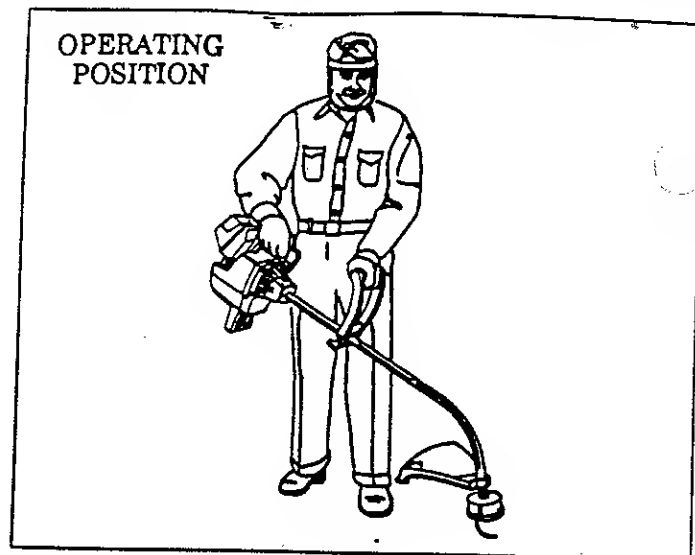

Figure 6
- a. Before starting the engine, stand as shown in Figure 6 and check for the following: